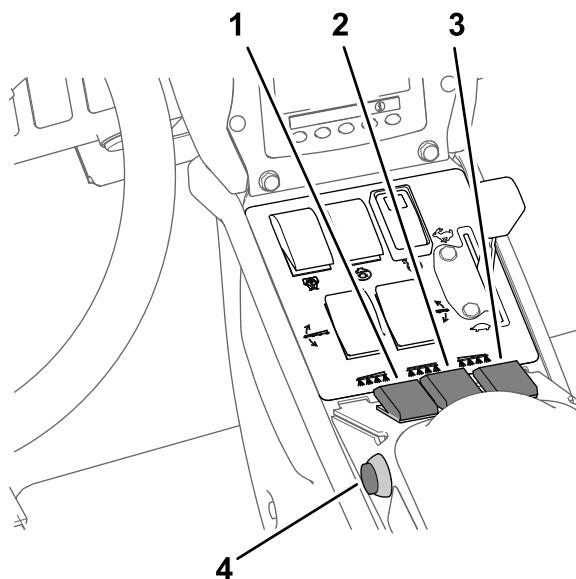

Figure 39
7. Set the spray section switch(es) to the ON position (Figure 39).
10. Drive at the desired speed and then set the master section switch to the ON position to begin spraying (Figure 39).
3. Set the master section switch to the OFF position; refer to Figure 39 in Spraying in the Application Rate Mode \(page 35\).
7. Set the individual section switches, as needed, to the ON position; refer to Figure 39 in Spraying in the Application Rate Mode \(page 35\).
9. Drive at the desired speed and then set the master section switch to the ON position to begin spraying; refer to Figure 39 in Spraying in the Application Rate Mode \(page 35\).